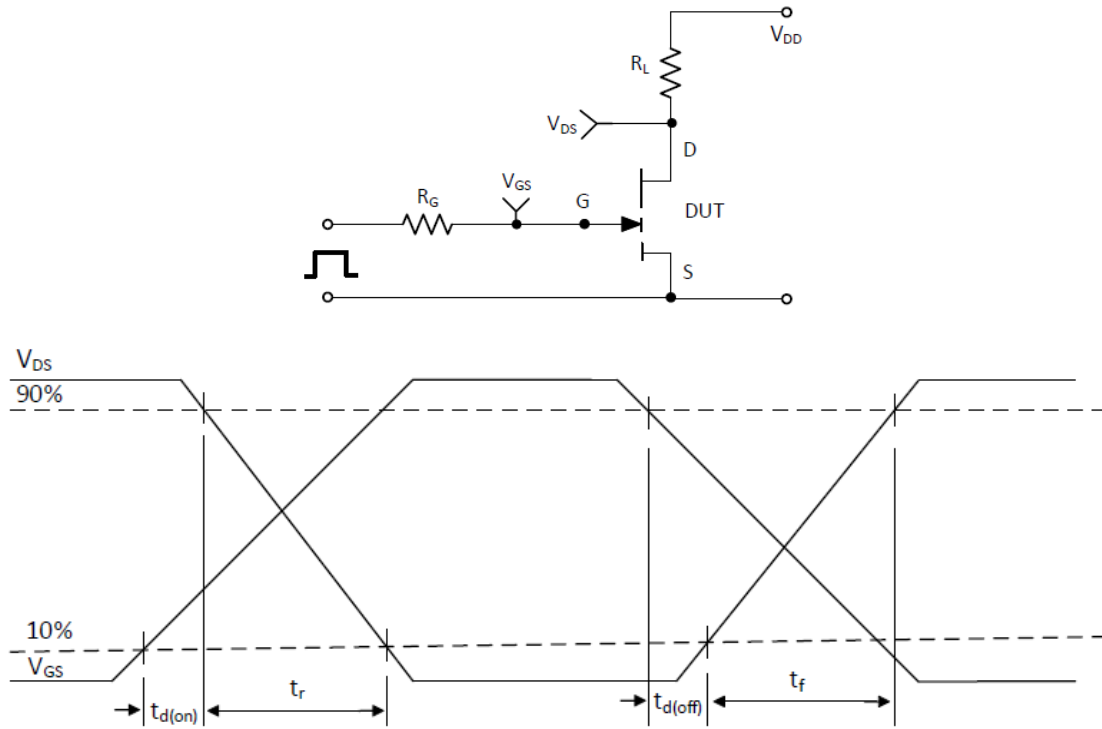

Figure 16: Switching time test circuit and waveforms
(6) See Figure 16 for switching time test circuit diagram and waveform definitions.